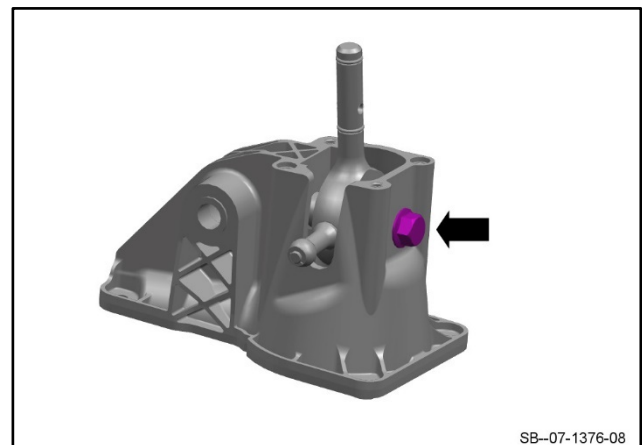

Figure 7
8. Remove the retaining bolt for the gear selector lever (refer to Figure 7).